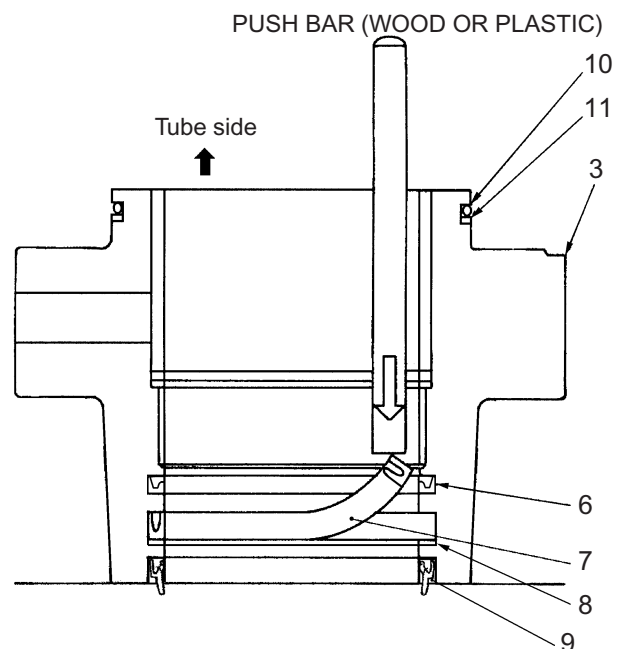

Fig. 32-50 How to fit U-ring (7)
- U-ring (7) is harder than other packing and it would be difficult to deform them in a heart shape. In such a case, put a U-ring in the groove obliquely by hand as deep as possible and push in the last part with a push bar till it is set with a click.
- Buffer ring (6) should be fitted taking care of the fitting direction. The reverse fitting may cause deformation, damage, etc. of the piston due to high pressure generated between the buffer ring and U-ring.
- If U-ring (7) is set upside down, the lip may be damaged. Check that it is positioned correctly.
- Attach back-up ring (11) on the open air side of O-ring (10). (See Fig. 32-50).